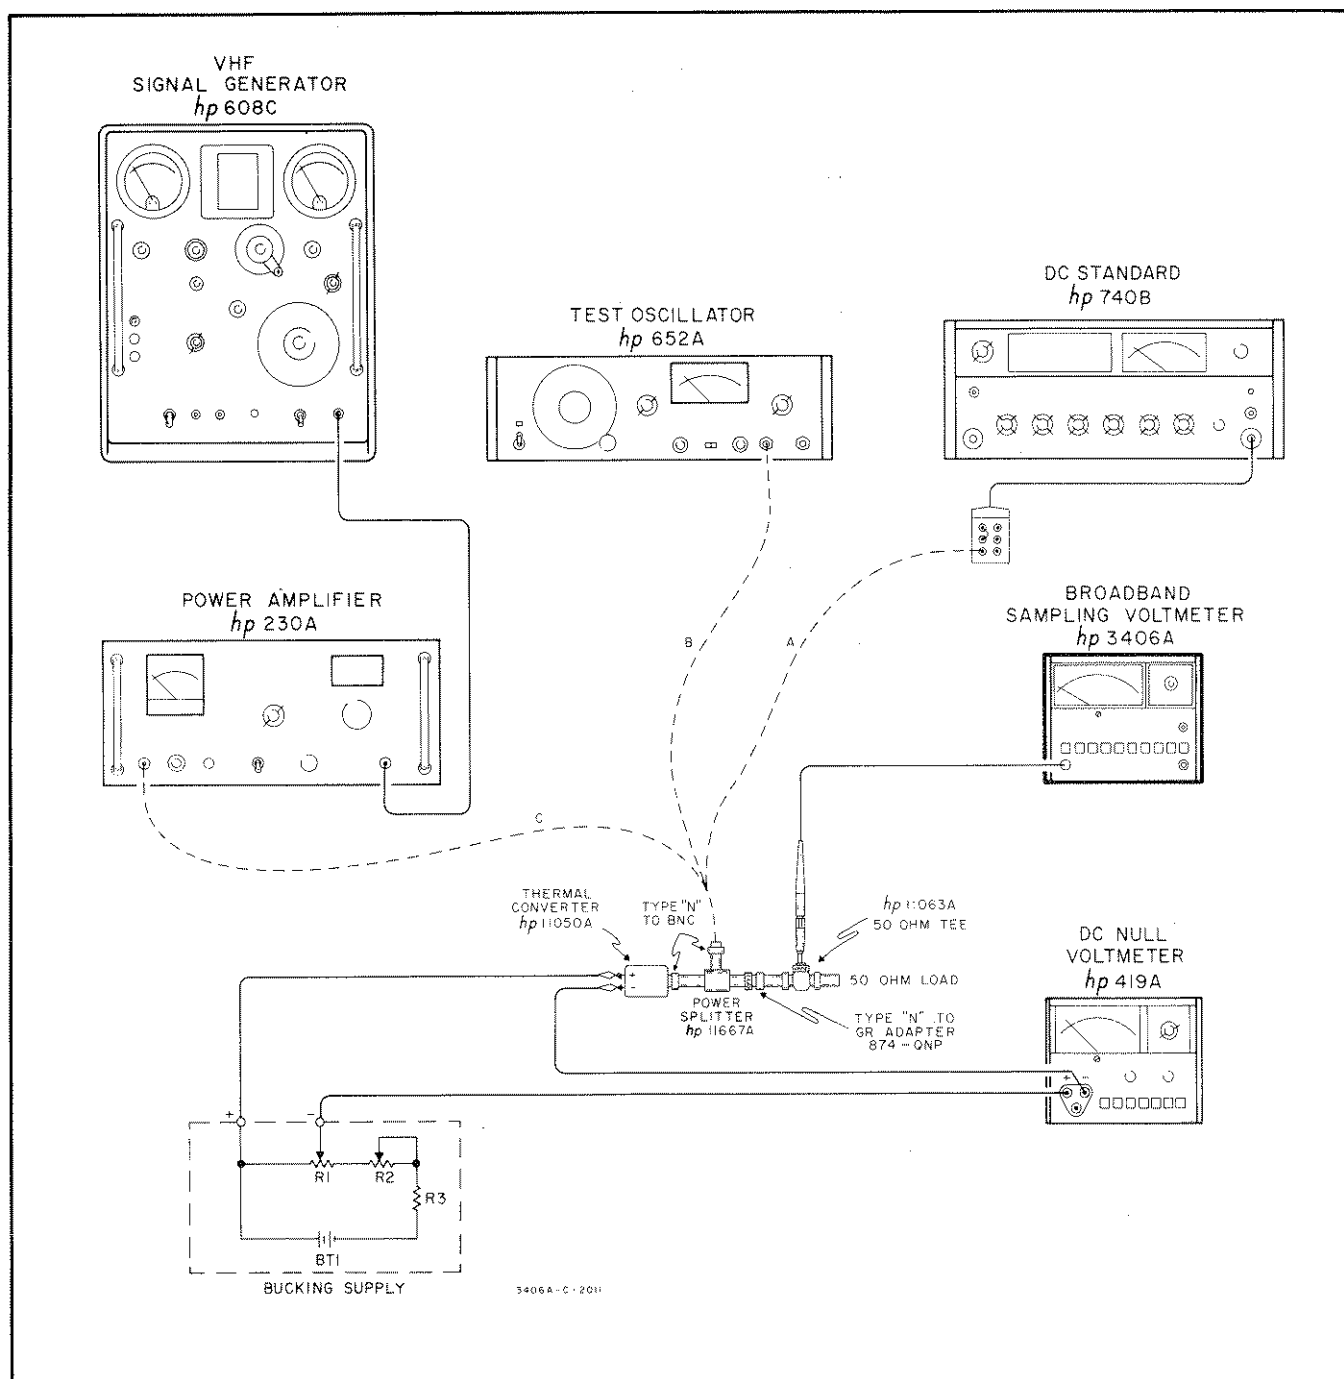

Figure 5-2. Accuracy and Range-to-Range Tracking Test Setup.
- e. Connect the equipment as shown in Figure 5-2, using the dc standard (A) to supply the input to the power divider.
- a. Connect the test setup as shown in Figure 5-2, using the VHF Signal Generator (C) as the signal source.